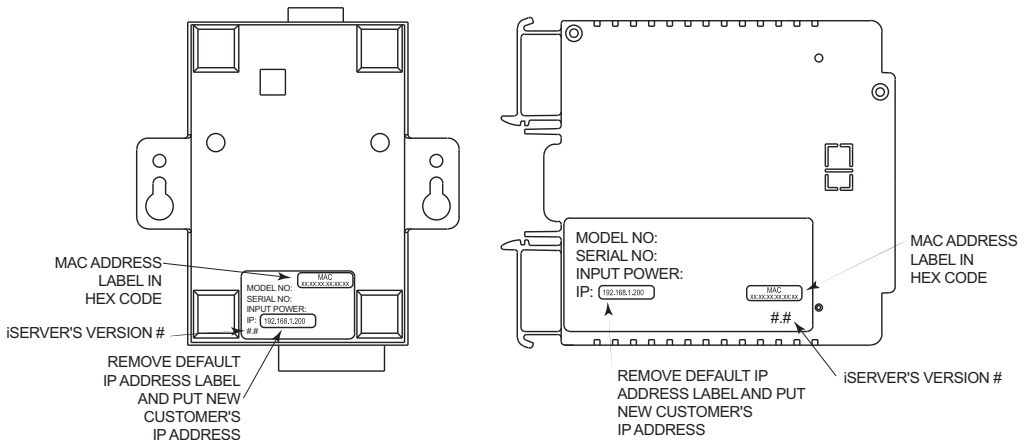

Figure 3.1 Labeling
Note Remove the small label with the default IP address and there will be room to put your IP address. See **Figure 3.1**
Go to your computer that is connected to the same network and from the MS-DOS Prompt window type "**ping 192.168.1.200**" and press Enter. If DHCP and DNS servers are used type "**ping eisxxx**", where xxx are the last four digits of the iServer's MAC address, located on the device (see **Figure 3.1**). You should get a reply as shown in **Figure 4.1**.
- In the URL field, type **<http://eisxxxx>** using the last four-digits from the MAC address label located on the device (see **Figure 3.1**) if DHCP and DNS are used.